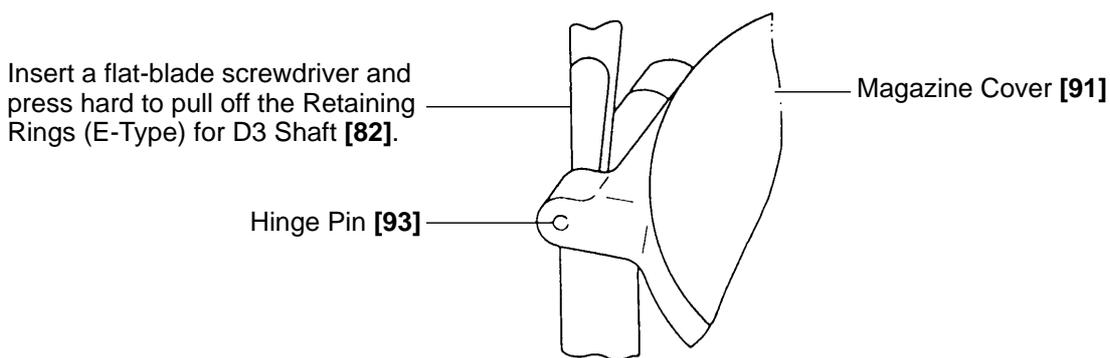

Fig. 16
• Insert a flat-blade screwdriver into a clearance between the Magazine Cover [91] and the Magazine [81], and press it hard to pull off the Retaining Rings (E-Type) for D3 Shaft [82] (See Fig. 16) (Take care not to lose the Retaining Rings (E-Type) [82]).
- Insert a flat-blade screwdriver into a clearance between the Magazine [81] and the Magazine Stopper [84], and press hard to pull off the Retaining Rings (E-Type) for D3 Shaft [82] (See Fig. 16).